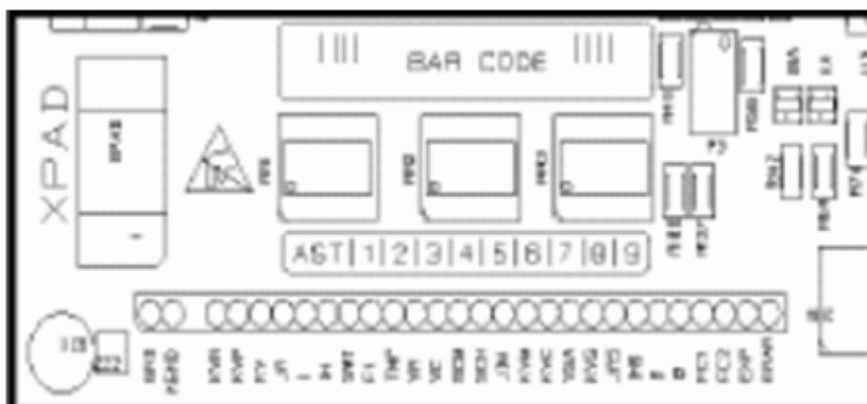

Fig. 7: D916_TP
- To check control functions, use the following measurement points and representations. Test point on the D916 ((Fig. 7 / p. 60)).